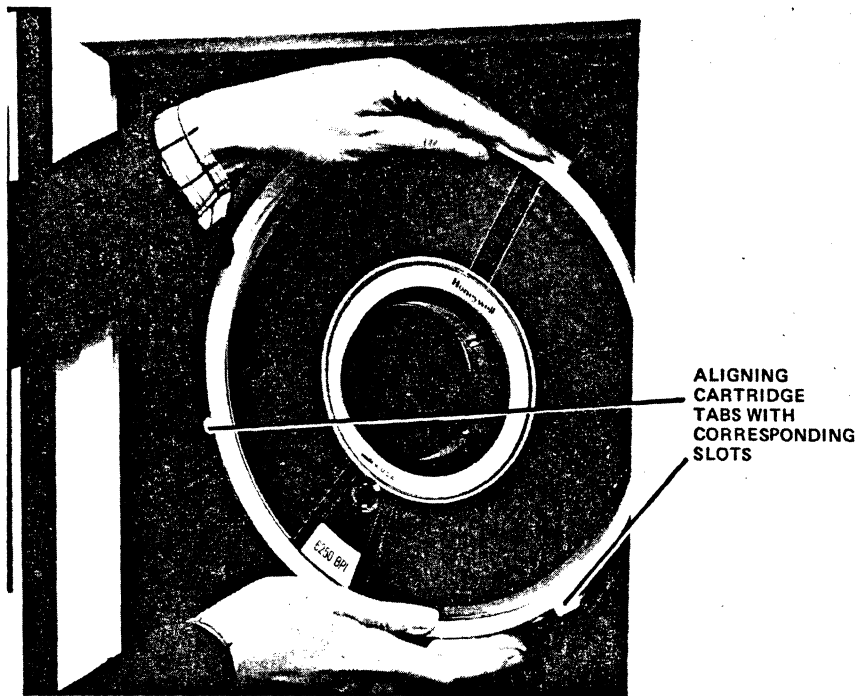

Figure 3-2. Mounting Cartridge Reel
1. Place the tape or cartridge reel on the file hub. If the cartridge reel is used, align the cartridge tabs with the corresponding slots (see Figure 3-2).